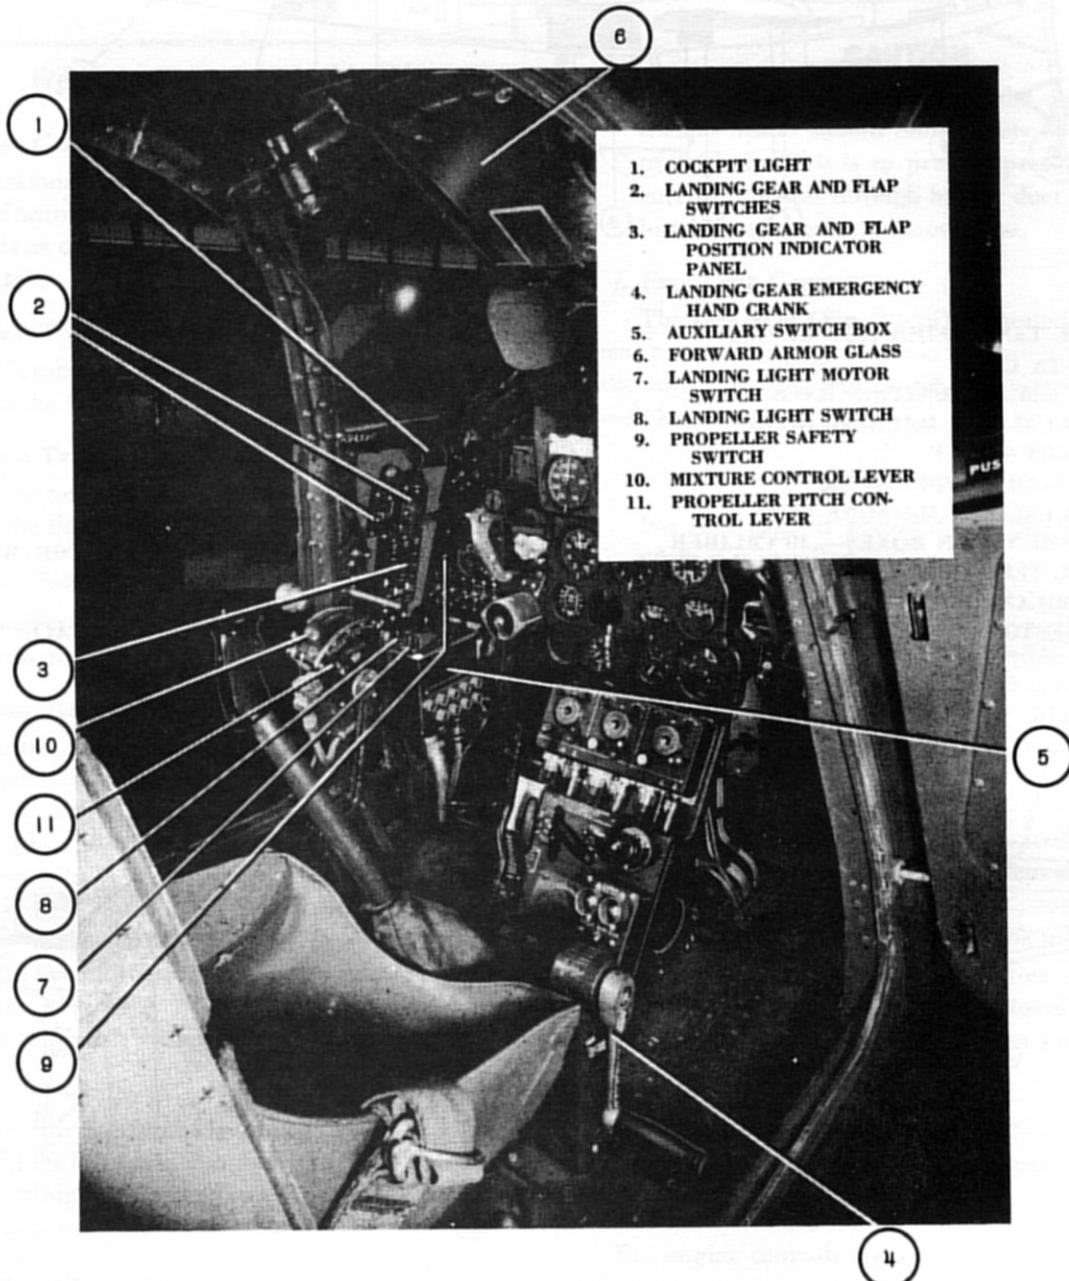

Figure 6—Cockpit, Right Hand Side of Seat
An electric toggle switch for control of the landing gear is mounted to the left of the instrument panel approximately six (6) inches below the plexiglas cabin enclosure (Fig. 6—2). It is plainly marked "Up," "Down" and "Off." A landing gear clutch (Fig. 10—8) and an emergency hand crank (Fig. 10—3) are located on the floor to the right of the pilot to be used to raise or lower the landing gear in an emergency. A landing gear warning horn (Fig. 10—9) is installed on the turnover structure directly behind the pilot's head.